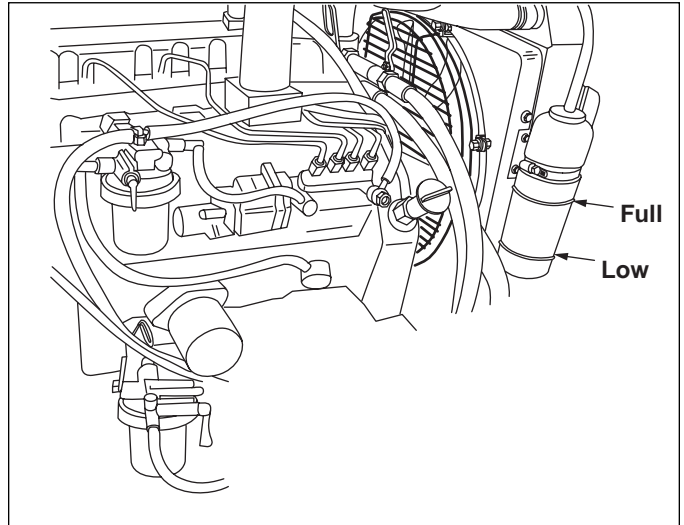

Figure 4-9. Checking Coolant Level
Unscrew the clear plastic housing (Figure 4-9) to change the filter element and clean dirt from the housing. Clean around the filter housing. Put oil on the seal of the new filter element. Install the fuel filter and hand tighten.
2. Check the coolant level in the expansion reservoir (Figure 4-9).